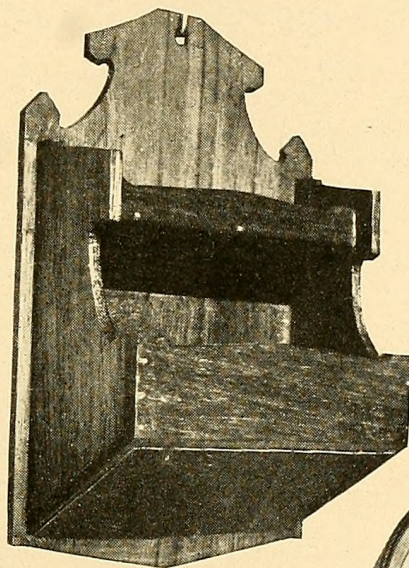

FIG. 241.
**The Kitchen Match-box** shown in Fig. 241 will be appreciated by your mother, because the large receptacle in